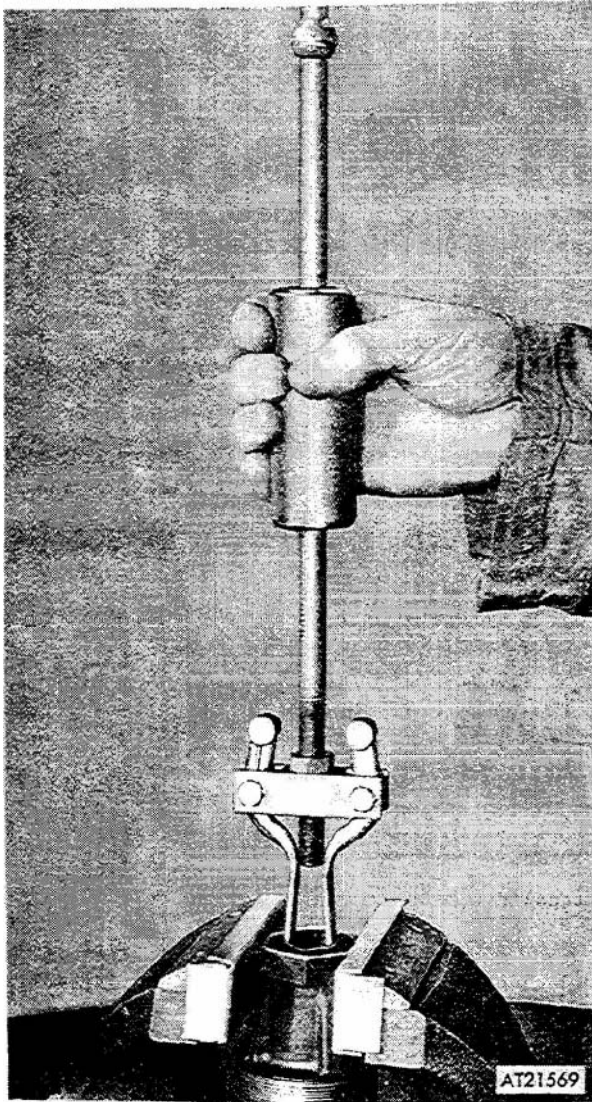

Figure 3-196. Removing seal from gear housing.
(2) Remove nut (1) and unscrew cover (2) from screw (6). Disconnect screw (6) from shaft (7) by removing retaining ring (4) and washer (5).
(3) Disconnect housing (25) and shims (24) from housing (18) by removing screws (34 and 37) and washers (35 and 38). Remove plug (36).
(4) Disconnect assembled housing (30) from housing (25) by loosening lock nut (33) and unscrewing housing.
(5) Remove gear (26), bearing (27), washer (28), and lock nut (33) from housing (30).
(6) Using a suitable puller, remove seal (32) from housing (30) as shown in figure 3-196. Press needle bearings (29 and 31, fig 3-195) from housing (fig 3-197).